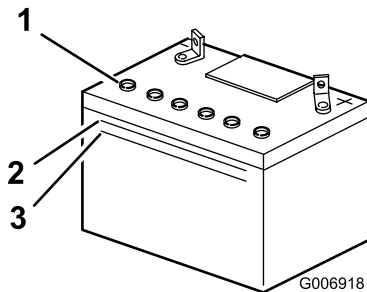

Figure 7
3. Slowly pour electrolyte into each battery cell until the electrolyte level is up to the Upper line on the battery case (Figure 7).
5. Add electrolyte, if necessary, until the electrolyte level is up to the Upper line (Figure 7) on the battery case